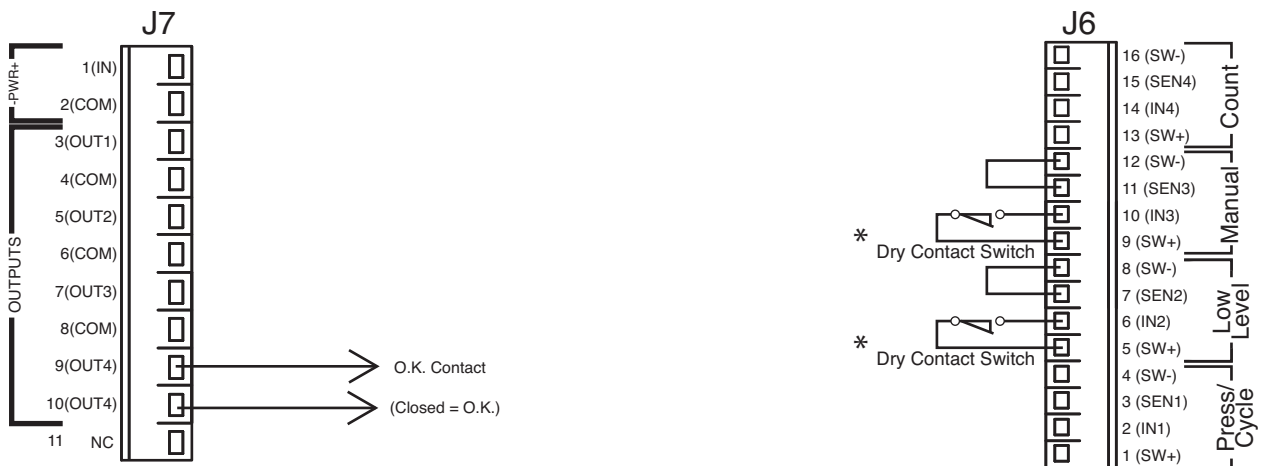

FIG. 17: *Dry Contact, FIG. 8 shown. For other configuration, see FIG. 9 or FIG. 10.
Table 4 shows additional (optional) setup configurations (FIG. 17 - FIG. 19).
Low Level Switch	FIG. 17, page 15
External Manual Run	FIG. 17, page 15
O.K. Contact Out	FIG. 17, page 15